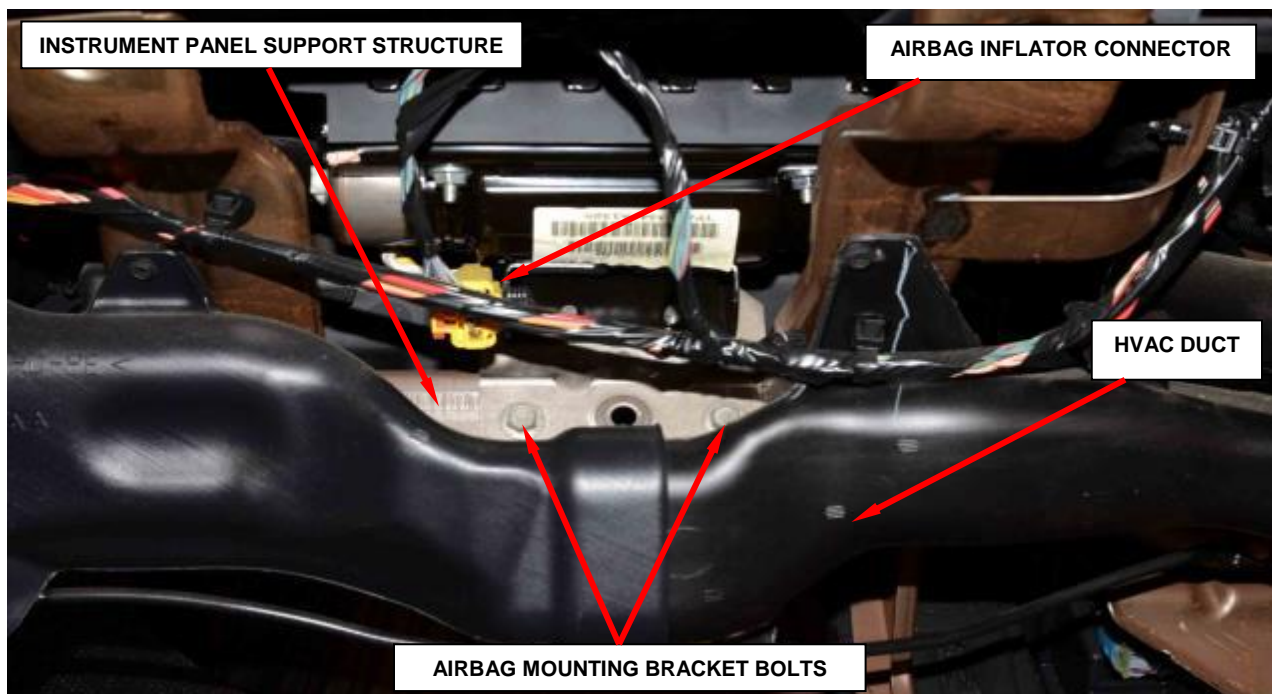

Figure 77 – Instrument Panel Mounting Bracket
- 33. Remove and save the two bolts that secure the passenger airbag bracket to the instrument panel support structure (Figure 77).
34. Disconnect the instrument panel wire harness connector from the airbag inflator pigtail connector on the right side of the airbag mounting bracket (Figures 77 and 78).